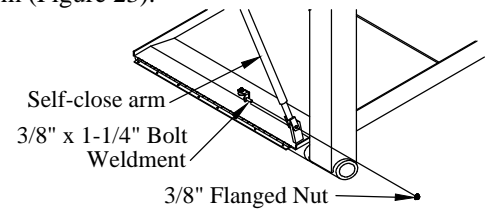

Figure 23: Self-close arm parts.
7. **Remove** the 3/8" x 1-1/4" bolt weldment that holds the self-closing arm to the platform (Figure 23).